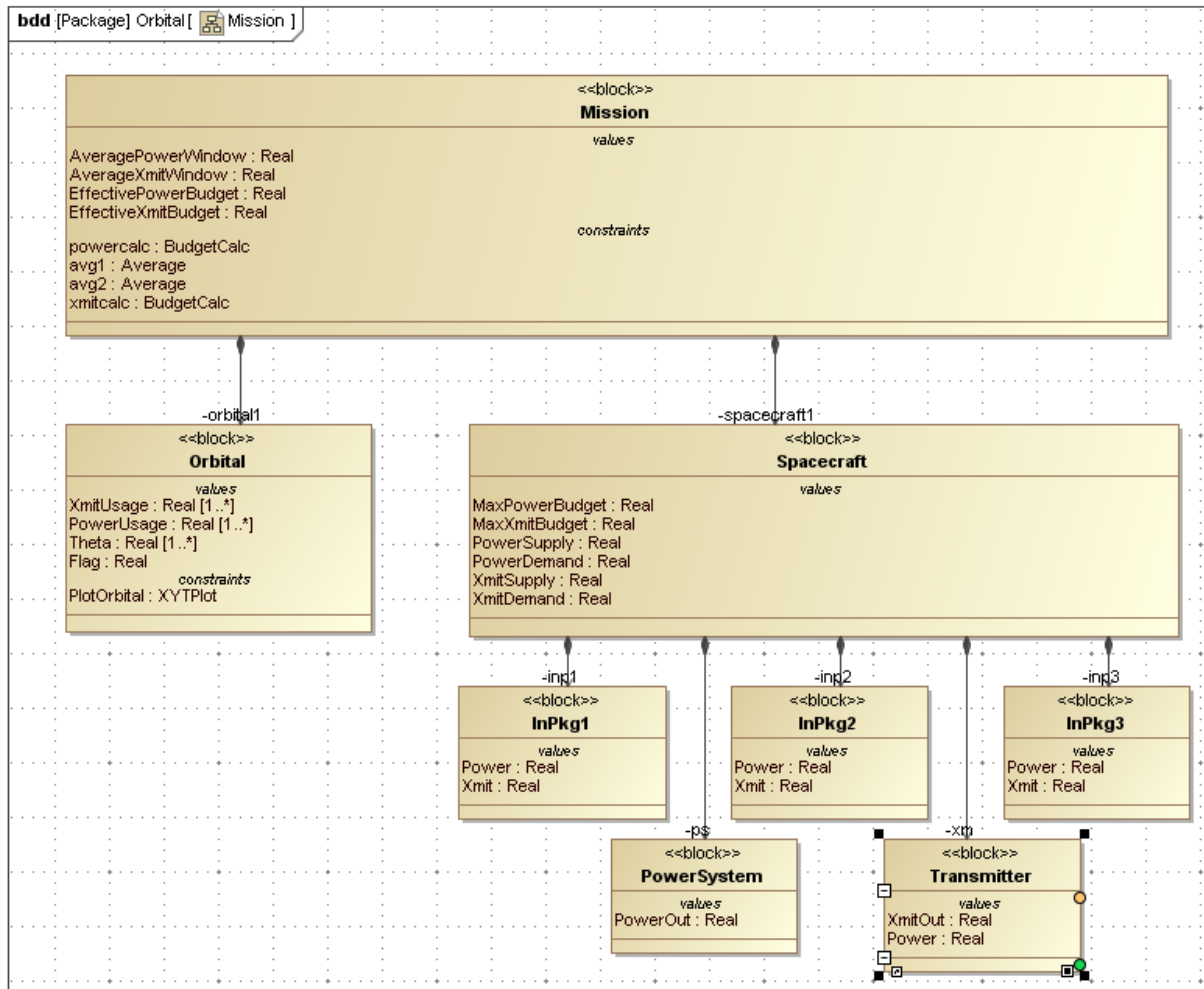

Figure 6.2 Block Definition Diagram for Orbital model
- a. Create a block definition diagram, Name = Mission, and drag the Mission elements into the diagram. See Figure 6.2. Use Directed Composition connectors to link the blocks in the hierarchy shown.
- c. Referring to Figure 6.2, create value properties as shown in the Spacecraft, InPkg1, InPkg2, InPkg3, Transmitter, and PowerSystem blocks, all type Real.
- d. Inside Orbital, create the value properties as shown in Figure 6.2.